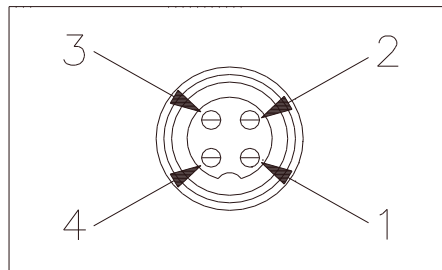

Fig. 3 Microphone plug pin numbers viewed from rear of pin receptacle.
5. The wires must now be soldered to the pins as indicated in the above wiring tables. If a vise or clamping tool is available it should be used to hold the pin receptacle body during the soldering operation, so that both hands are free to perform the soldering. If a vise or clamping tool is not available, the pin receptacle body can be held in a stationary position by inserting it into the microphone jack on the front panel. The numbers of the microphone plug are shown in Fig. 3, as viewed from the